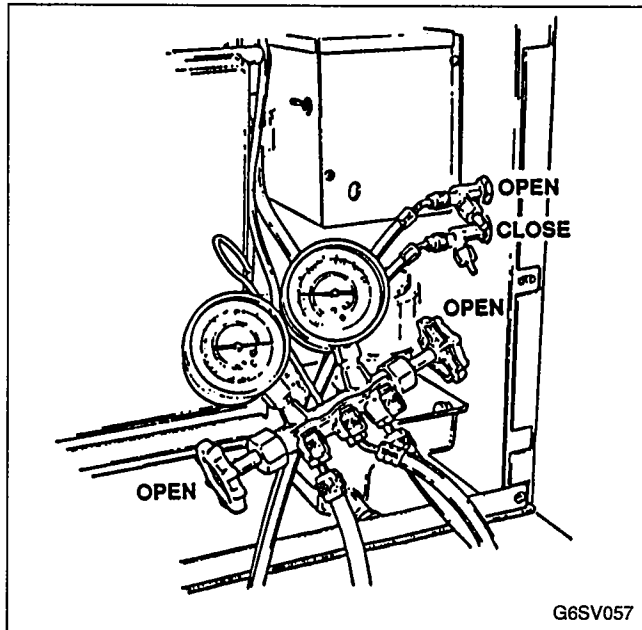

FIGURE 57. INSTALLING MANIFOLD GAUGES
1. Connect high side line to high side service valve at ice machine. See Figure 57.